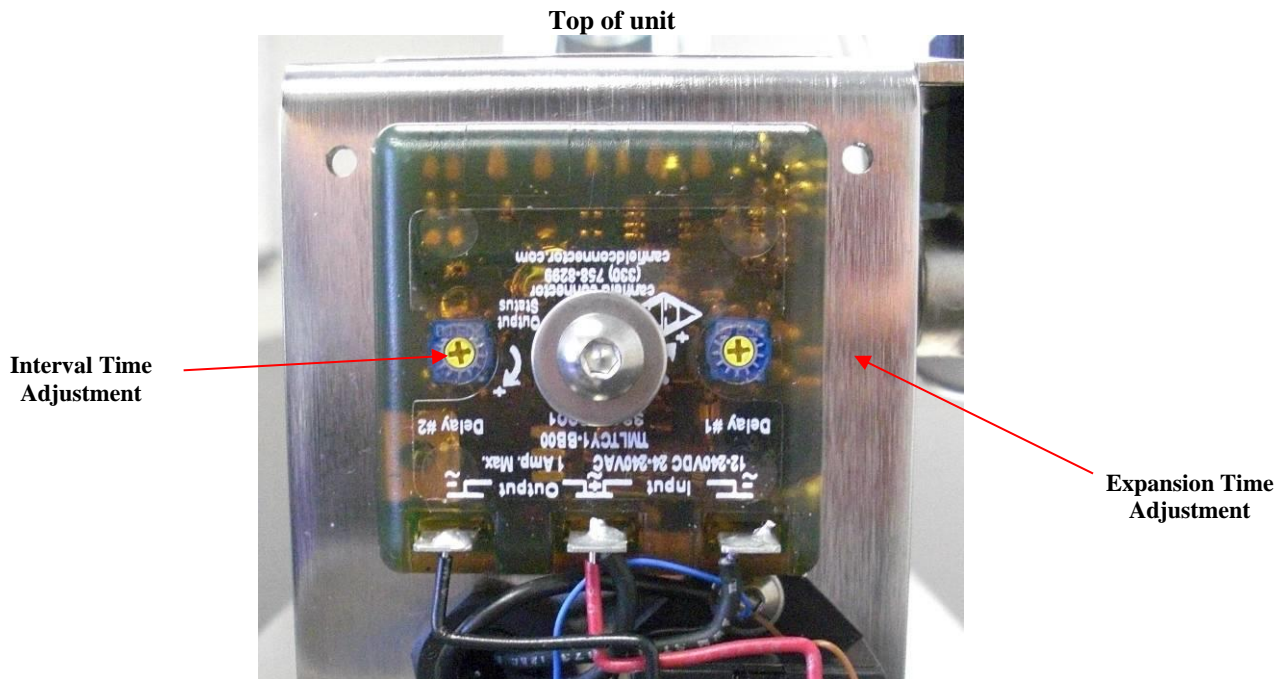

Figure 3.2.3: Time Delay Relay and Time Adjustments
- **Figure 3.2.3** below shows the CRD202 with the rear cover removed, as well as the location of both time delay adjustments on the time delay relay: